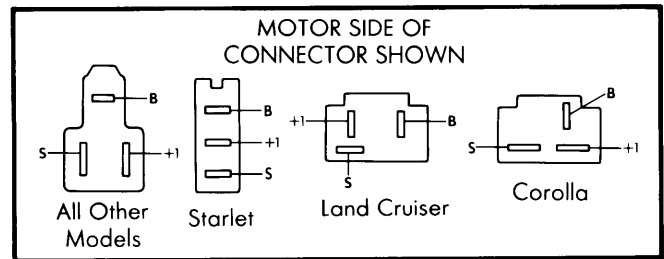

Fig. 2 Rear Wiper Motor Terminal Locations for Jumper Wires and Continuity Check
1) Unplug connector at wiper motor. Use an ohmmeter to check for continuity between motor case and ground. Be sure motor is in park position, then check for continuity between terminals "+1", "S" and ground. See Fig. 2.